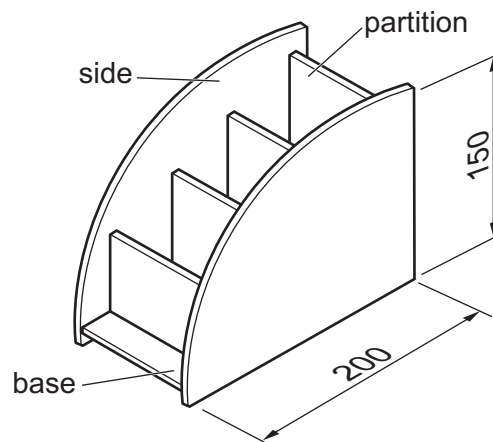

Fig. 9.1
- 9 Fig. 9.1 shows a storage unit for three remote controls. The storage unit has two sides, a base and four partitions made from 5 mm thick MDF. The storage unit is supplied as flat pack for customers to self-assemble.